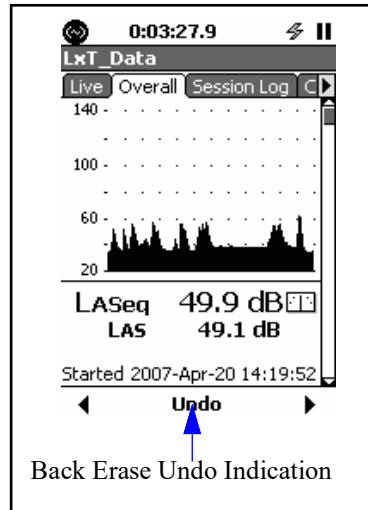

FIGURE 6-5 Back Erase Undo Indication
- Press the center softkey to extend the back erase to ten seconds. The center softkey is then labeled **Undo**, as shown in FIGURE 6-5.
After pressing the center softkey, if the measurement duration since the last Stop or Pause has been less than ten seconds, the center softkey is then labeled **Undo**, as shown in FIGURE 6-5.